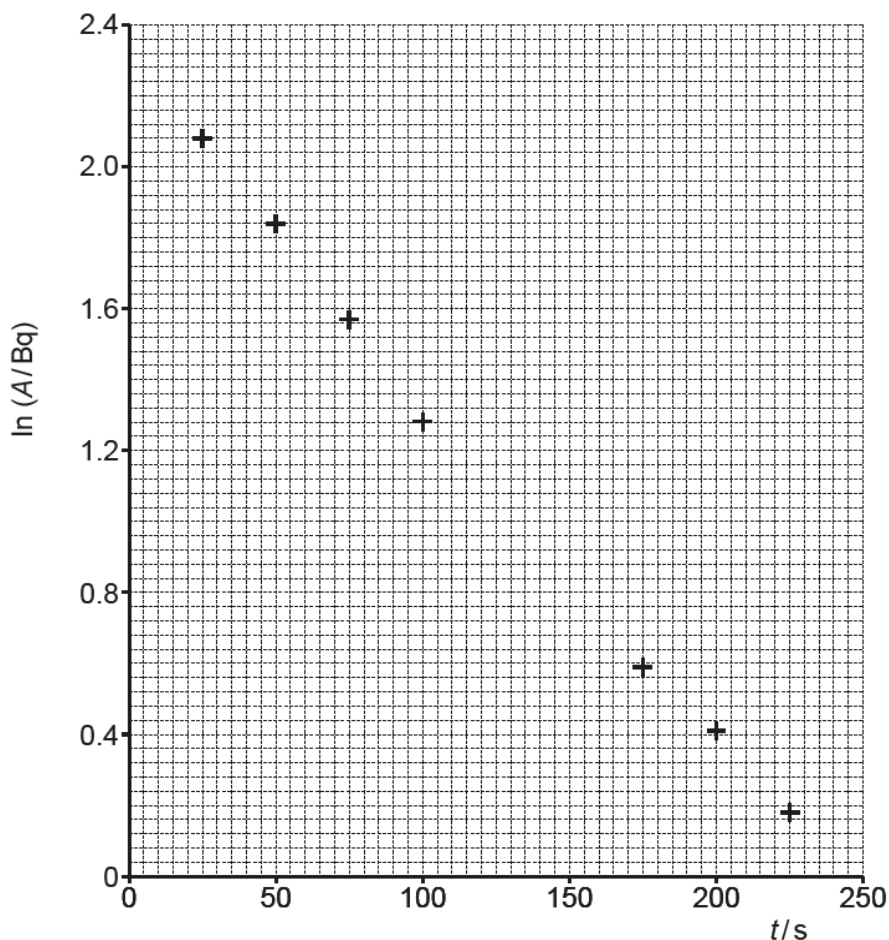

Fig. 2
- (iii) A graph of $\ln(A/Bq)$ (y -axis) and t (x -axis) is drawn in Fig. 2. Plot the remaining points on the graph and draw the line of best fit. [2]